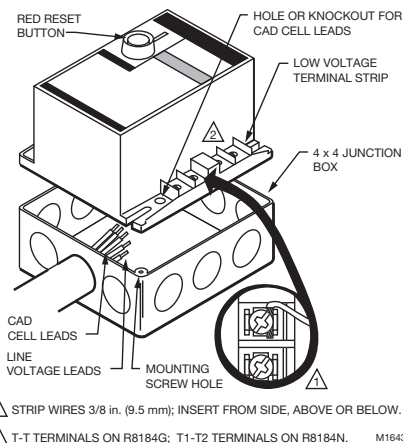

Fig. 1. Wire and mount 130°F (54°C) maximum ambient temperature oil primary control.
1. Mount on a 4 x 4 junction box, directly on the main burner housing or inside the appliance cabinet. See Fig. 1.
- 4. Thread the line voltage cad cell leads through the hole on the bottom of the low voltage terminal strip. See Fig. 1 or 2.